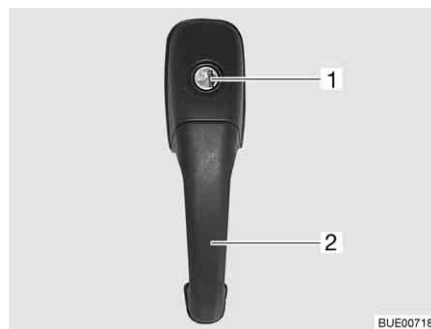

Fig. 35 Door lock of conversion door, outside
- Insert the key into locking cylinder (Fig. 35,1) and turn until the door lock is unlatched.
- Pull on the handle (Fig. 35,2). The door is open.
- Insert the key into locking cylinder (Fig. 35,1) and turn until the door lock is engaged.